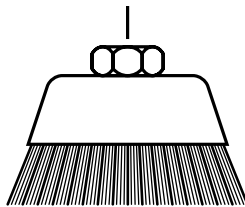

FIG. 5
6.4 FITTING/REPLACING ACCESSORIES (sold separately) – FIG. 5
Remove the locking flange only. Clean the flanges and spindle prior to fitting any accessory. If the rear flange is removed for cleaning, ensure it locates correctly on the spindle flats when refitting and does not spin freely. When fitting the appropriate accessory please refer to (Fig.5) for specific details on the locking flange correct orientation as applicable.